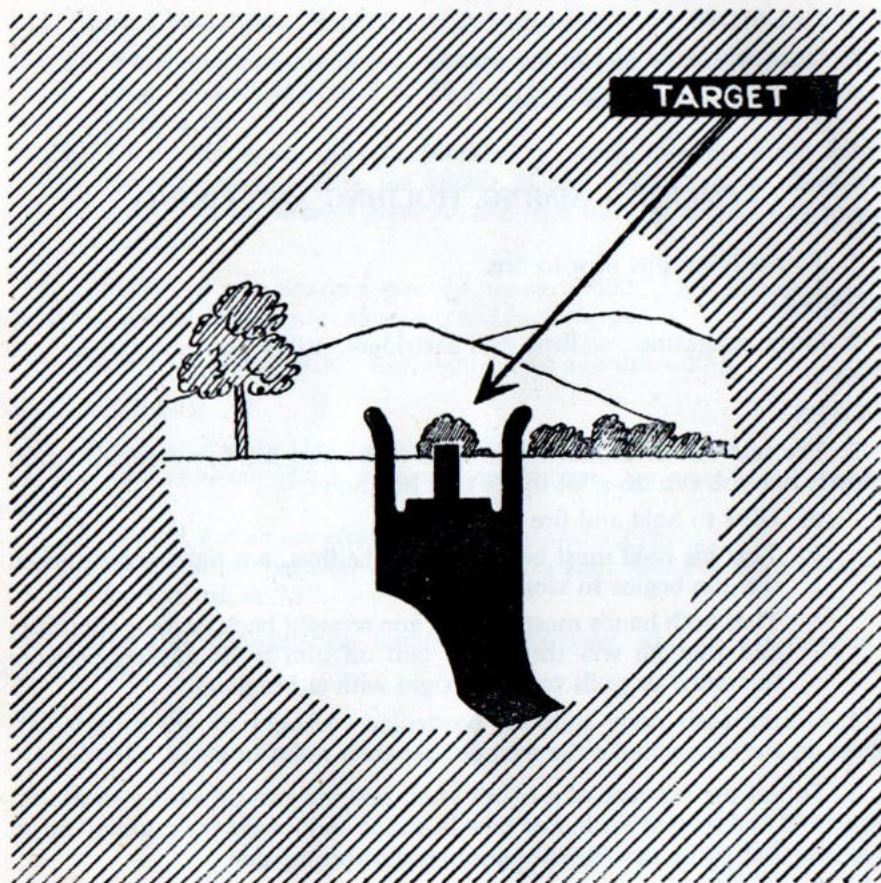

Fig 10.—Correct aim picture for a LMG
10. *You aim a LMG in the same way as a rifle; but the aperture of the backsight is larger, and you must be careful to get the tip of the foresight in the middle of it. Fig 10 shows a correct aim picture.*